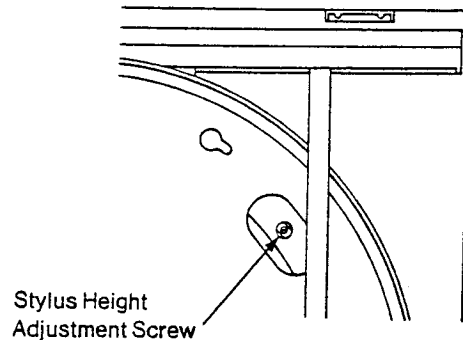

Fig. 4
3. Press ◀ button on the control panel to shift the arm to the place where the stylus height adjustment screw can be observed. (Fig. 4)